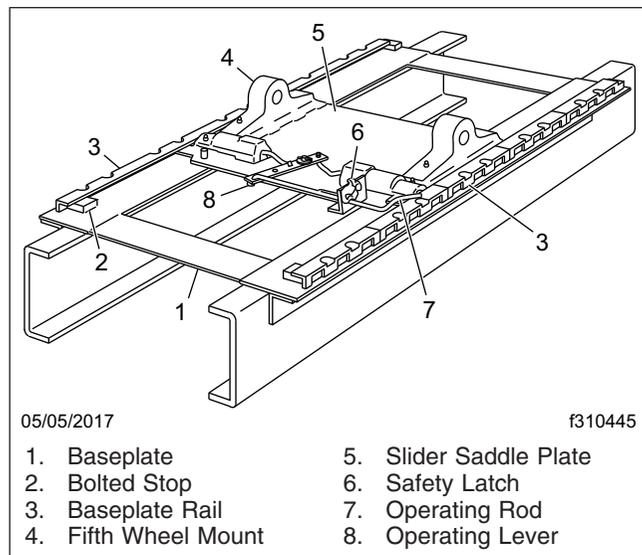

Fig. 20.13, Sliding Fifth Wheel Manual Release, (Holland Simplex)
- 2.2 **Holland:** Pull the operating rod out. Make sure both side plungers have released. See Fig. 20.13.